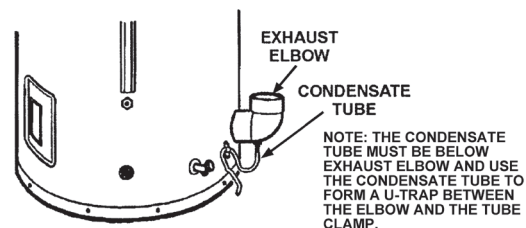

FIGURE 12
This water heater is a condensing unit and requires a drain to be located in close proximity to allow the condensate to drain safely. The condensate drains from the unit at the exhaust tee located at the bottom of the unit (see figure 12). Condensate from this water heater is mildly acidic. Please note that some local codes require that condensate is treated by using a pH neutralizing filter prior to disposal.
**CONDENSATION WARNING: THIS WATER HEATER IS A CONDENSING UNIT AND REQUIRES A DRAIN TO BE LOCATED IN CLOSE PROXIMITY TO ALLOW CONDENSATE TO DRAIN SAFELY. THE CONDENSATE DRAINS FROM UNIT AT THE EXHAUST ELBOW LOCATED AT BOTTOM OF UNIT. NOTE: IT IS IMPORTANT THAT THE CONDENSATE HOSE NOT BE ELEVATED ABOVE THE EXHAUST ELBOW, SEE FIGURE 12. CONDENSATE BUILD-UP WILL BLOCK THE EXHAUST OUTLET, WHICH WILL CAUSE IMPROPER OPERATION.**